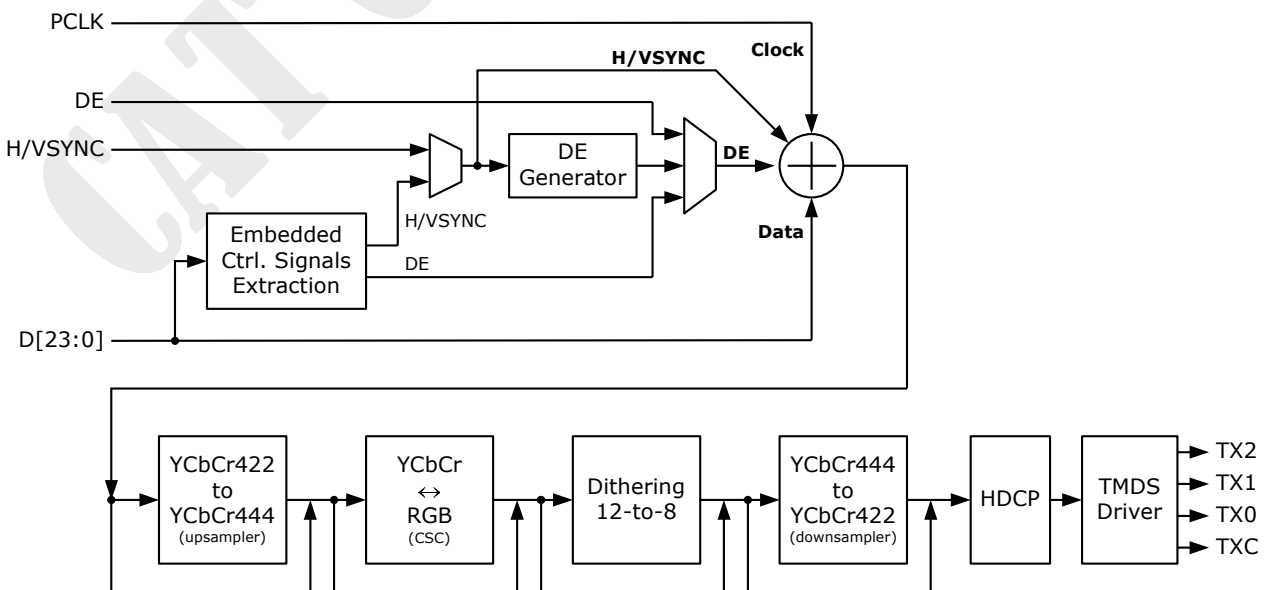

Figure 3. Video data processing flow of CAT6611
Figure 3 depicts the video data processing flow. For the purpose of retaining maximum flexibility, most of the block enablings and path bypassings are controlled through register programming. Please refer to CAT6611 Programming Guide for detailed and precise descriptions.
As can be seen from Figure 3, the first step of video data processing is to prepare the video data (Data), data enable signal (DE), video clock (Clock), horizontal sync and vertical sync signals (H/VSYNC). While the video data and video clock are always readily available from input pins, the preparation of the data enable and sync signals require special extraction process (Embedded Ctrl. Signals Extraction & DE Generator) depending on the format of input video data.
Although not explicitly depicted in Figure 3, input video clock (PCLK) can be configured to be multiplied by 0.5, 2 or 4, so as to support special formats such as CCIR-656 and pixel-repeating. This is also enabled by software programming.